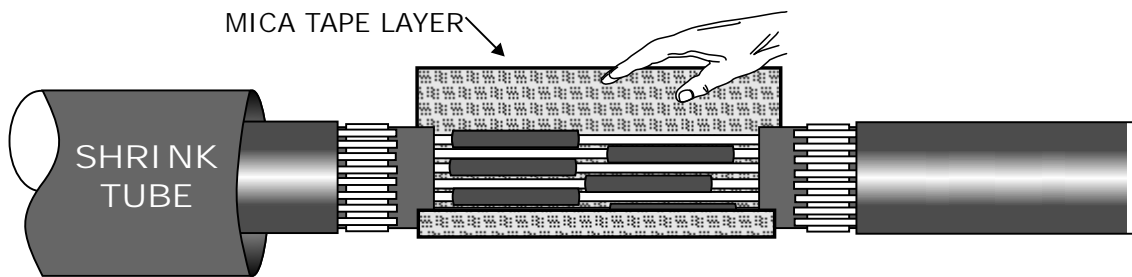

Fig 3
7. Take the piece of Mica Tape, remove the backing paper and apply longways across the joint gap so that overlaps the Cable Bedding at each side as shown above in Fig 3.